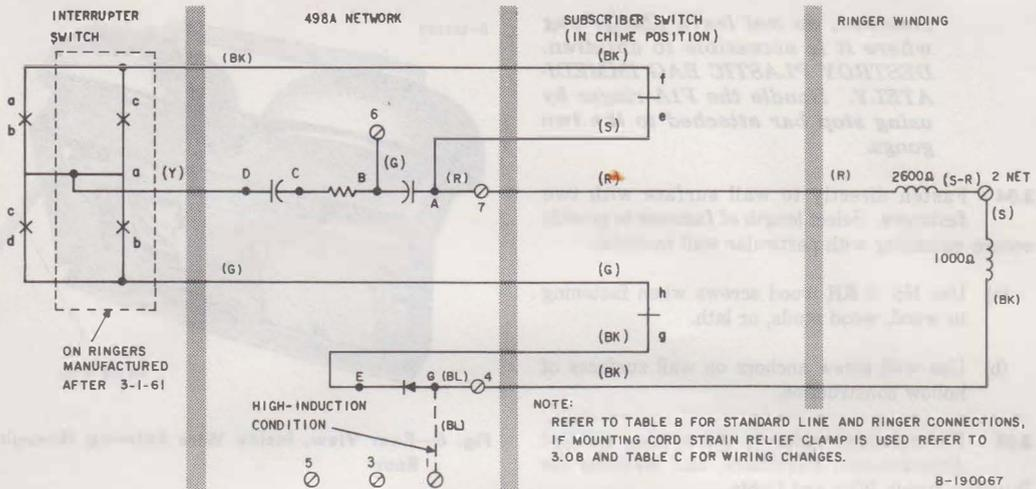

Fig. 4—F1A Ringer, Schematic
- Note to Fig. 4
(e) Interrupter switch assembly operated by movement of clapper rod to control chime operation. (Earlier model ringers have a 4-leaf spring assembly; later models have 3-leaf spring assembly as shown in Fig. 4.)
6.03 Table B gives connections for the F1A ringer. A circuit drawing is shown in Fig. 4.